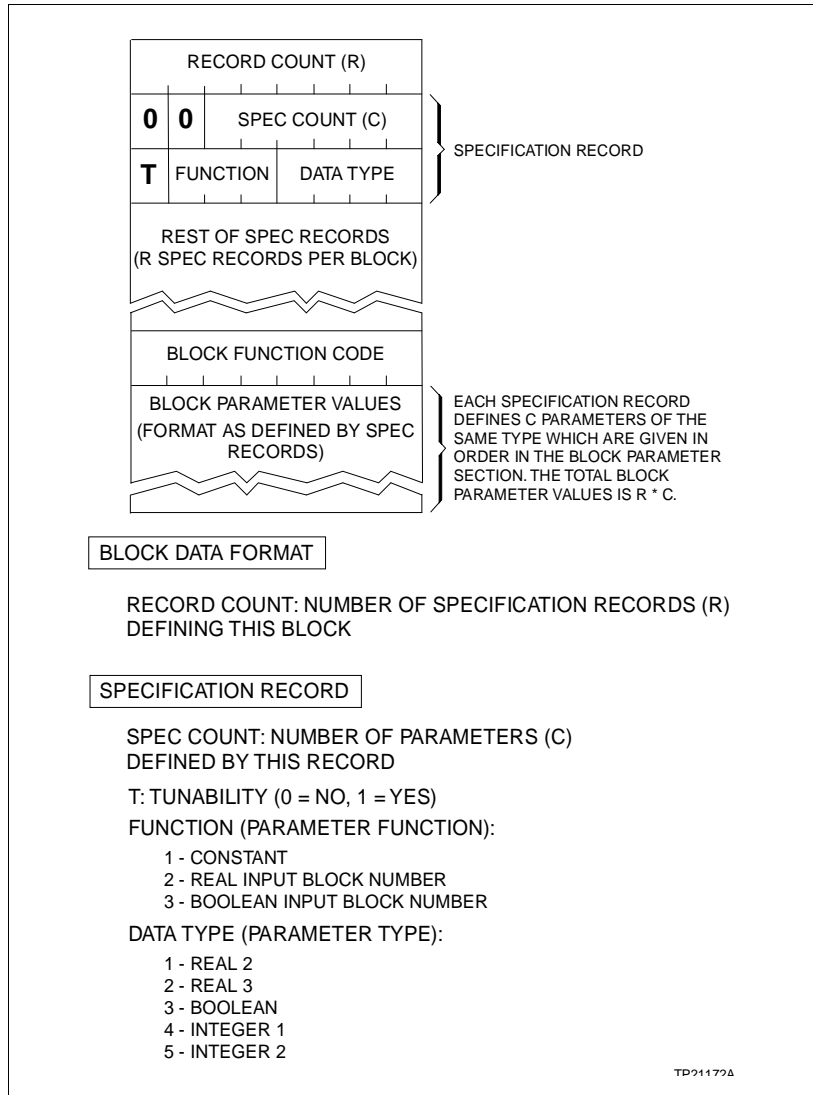

Figure F-1. General Block Data Format
Figure F-1 details the general block data format required for configuration functions.
2. Use the general block data diagram in Figure F-1 to parse through the stream of bytes returned by **READ BLOCK**. Modify the desired tunable specifications in the byte stream. None of the other bytes in the byte stream should be modified as the entire block data stream must be written back to the module when using the **TUNE BLOCK** function.